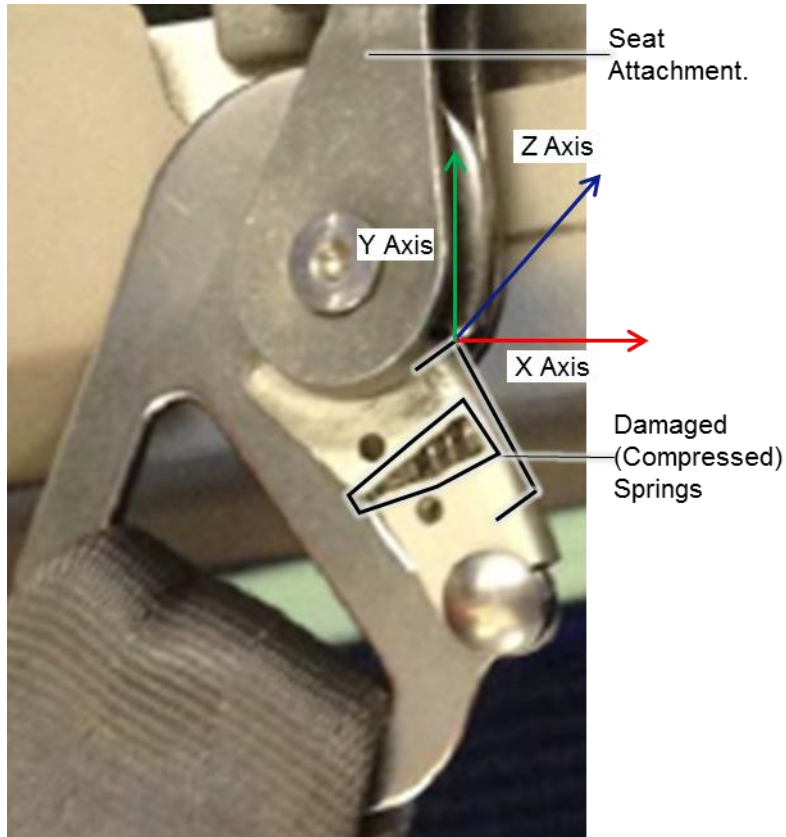

Figure 3 – Damaged Hook Assembly
Step 2. Visually examine the hook assembly for damage (e.g., compressed springs, bends, rotation or deformation of the bridge along the X axis, Y axis or Z axis) that would restrict movement or function (Figure 3 and Figure 4).